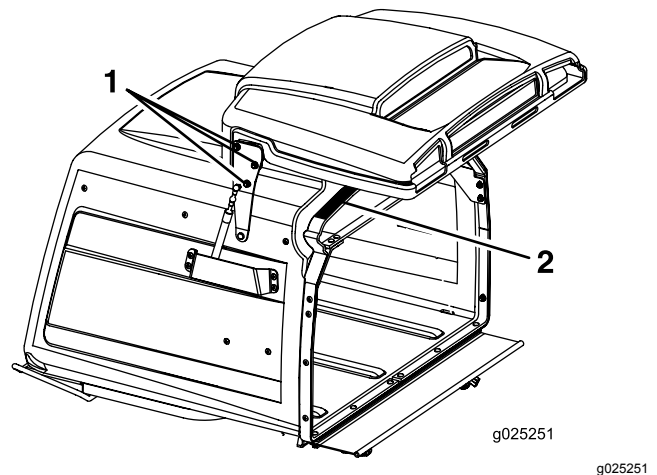

Figure 69
3. Loosen the 6 door hinge nuts (Figure 69).
4. Open the door and place a 3/8 inch (9.5 mm) rubber strip or 3/8 inch (9.5 mm) diameter hose between the hopper and the hopper door (Figure 69).